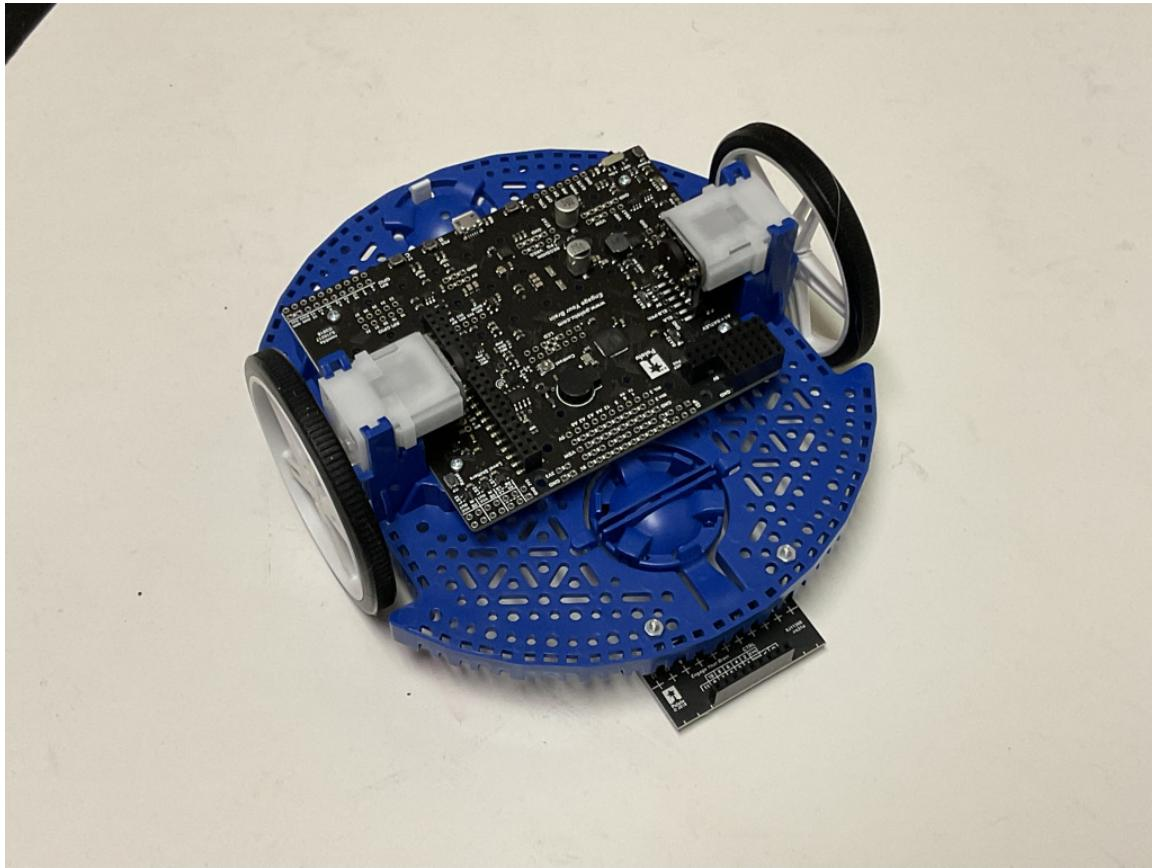

Figure 1: Romi base with line sensor attached.
2. **Add the line sensor.** Using (2) 3/4" standoffs, attach the line sensor to the front of the robot, as shown in Figure 1. Arrange is so that screws are on the bottom and nuts on the top so that the extra screw length doesn't drag on the ground.